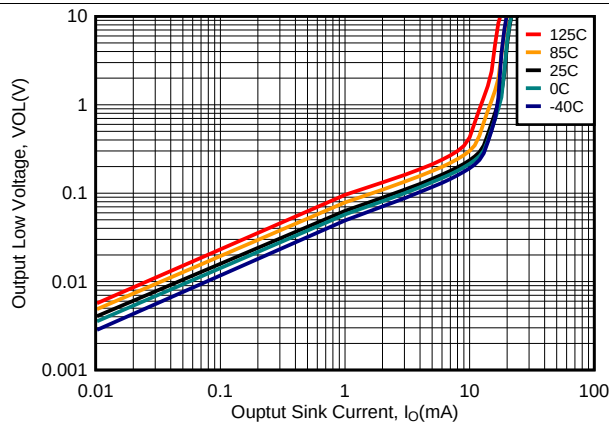

图 5. Output Low Voltage vs. Output Current
Output current is determined by the load/pull-up resistance and logic/pull-up voltage. The output current will produce a output low voltage (V_{OL}) from the comparator. In which V_{OL} is proportional to the output current. Use 图 5 to determine V_{OL} based on the output current.
- R_{CE} can be determine by taking the slope of 图 5 in it's linear region at the desired temperature, or by dividing the V_{OL} by I_{out}